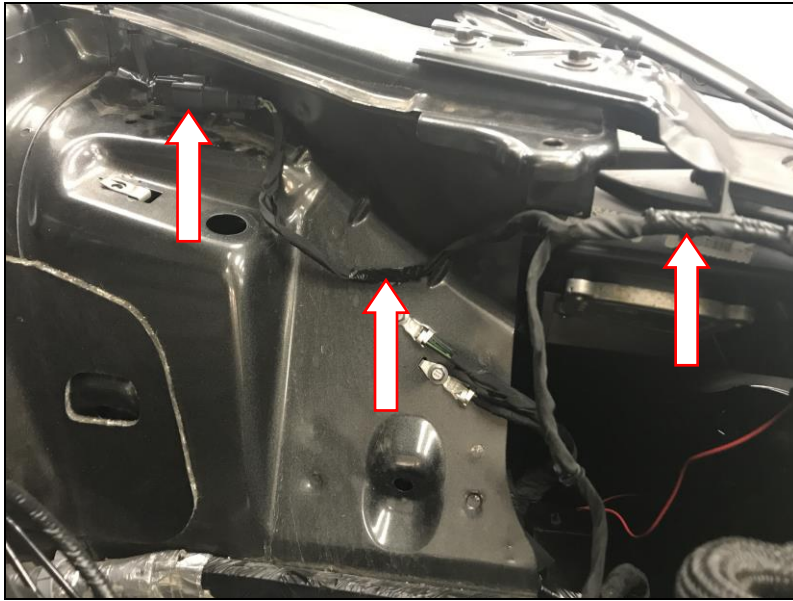

Figure 3
- Carefully disconnect the terminated plug from the fender and both push clips attached to the wiring harness (**Figure 3**).